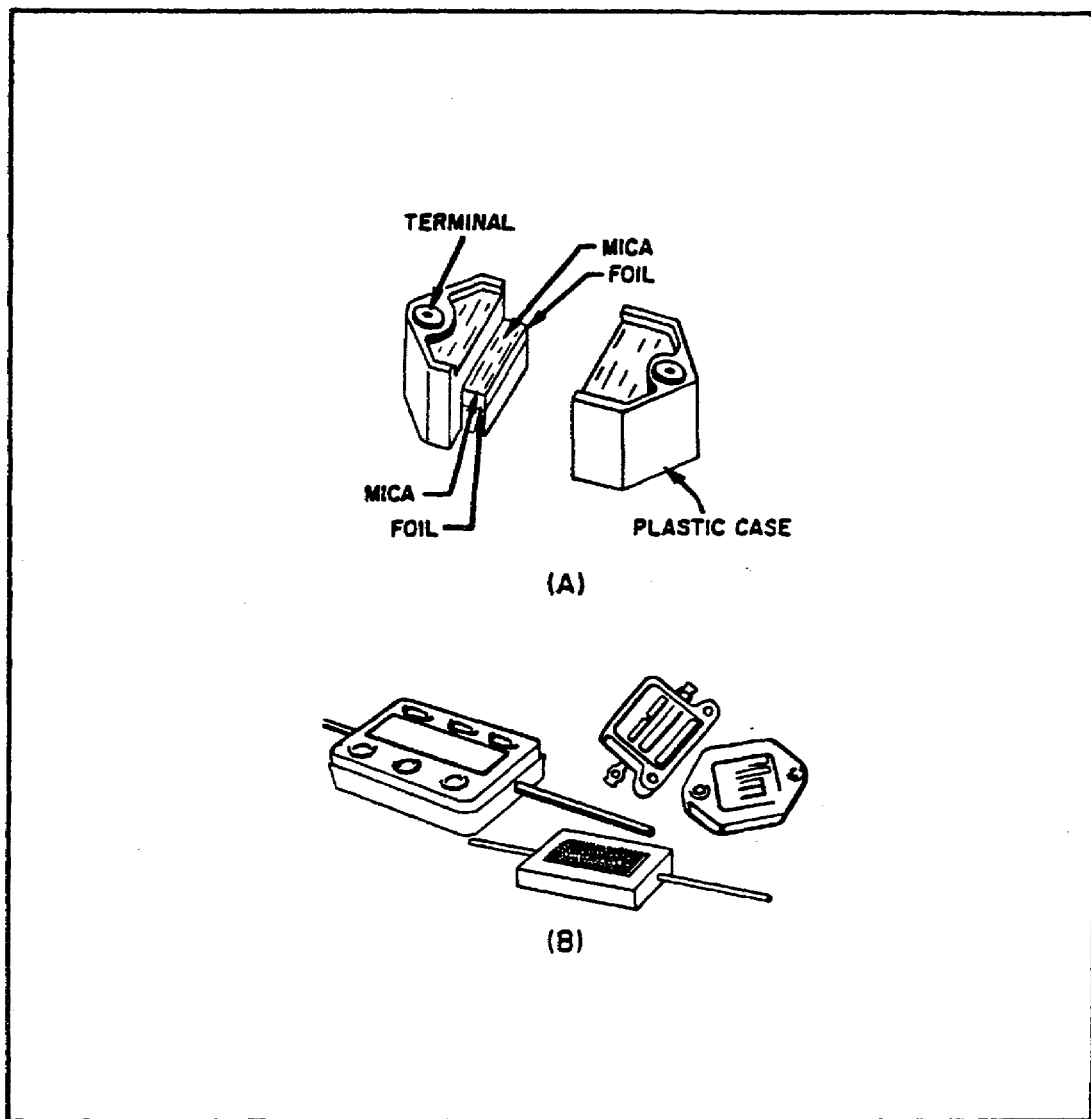

FIGURE 42. TYPICAL MICA CAPACITORS.
(2) *Mica Capacitors.* A MICA CAPACITOR is made of metal foil plates that are separated by sheets of mica (the dielectric). The whole assembly is encased in molded plastic. Figure 42, view A, shows a cut-away view of a mica capacitor. Because the capacitor parts are molded into a plastic case, corrosion and damage to the plates and dielectric are prevented. In addition, the molded plastic case makes the capacitor mechanically stronger. Various types of terminals are used on mica capacitors to connect them into circuits. These terminals are also molded into the plastic case.
Mica is an excellent dielectric and can withstand a higher voltage than can a paper dielectric of the same thickness. Common values of mica capacitors range from approximately 50 picofarads to 0.02 microfarads. Some different shapes of mica capacitors are shown in figure 42, view B, on the previous page.